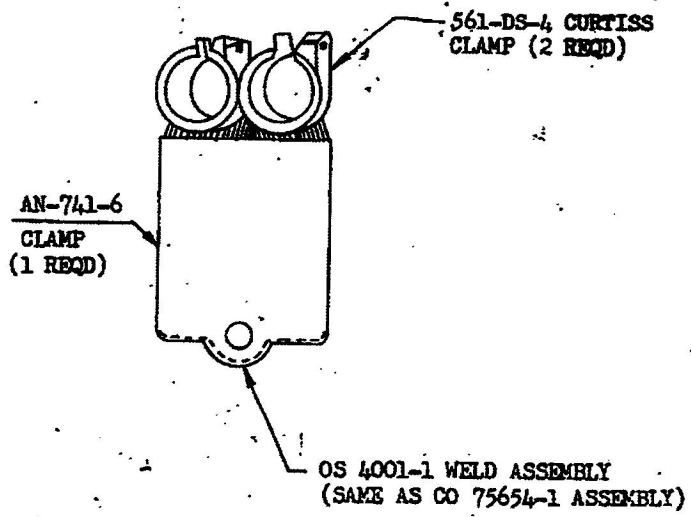

FIGURE 1.
- (e) Make OS 4001-1 weld assembly by welding Curtiss clamps to AN741-6 clamp (as shown in Figure 1) rather than to 43-184135 brace as shown on face of Drawing 18413-4. Weld clamps so that the 19° angle as shown on the face of the drawing is maintained, and locate OS 4001-1 so that the Curtiss clamps are in the same position as shown on the drawing.